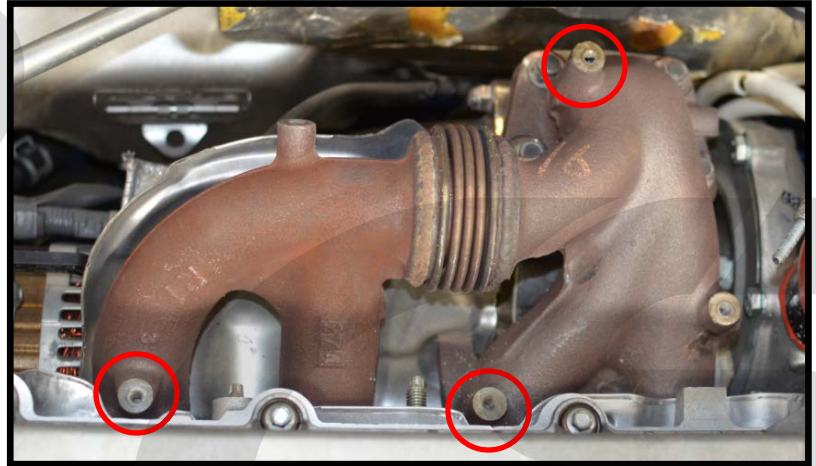

Figure 3a
- a) The CS heat shield will only use the mounting points the circled in red in Figure 3a.